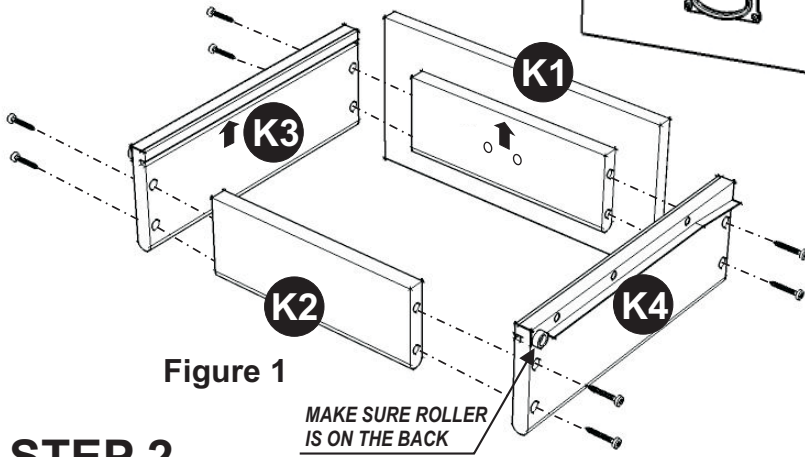

Figure 1
(Figure 1)
Assemble Pull Handle to Door (M) with Machine Screws. (see Figure 1)
Attach K2 to K3 and K4 using long wood screws (4X), tighten halfway. (see Figure 1)